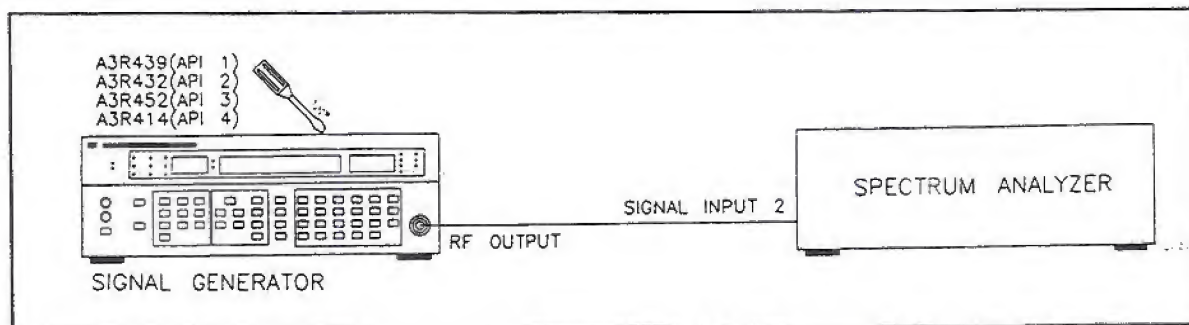

Figure 5-29. API 1, 2, 3 and 4 Adjustment Setup
- Connect the RF OUTPUT of the Signal Generator to the spectrum analyzer as shown in Figure 5-29.